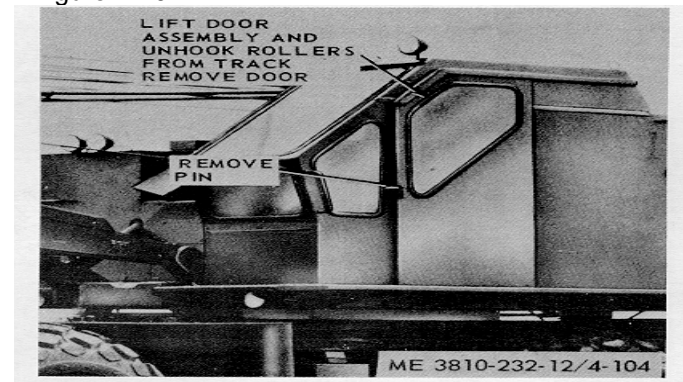

Figure 4-104. Crane cab door, removal and installation.
a. Removal Remove the crane cab door as illustrated in figure 4-104.
(1) Clean door.
(2) Inspect door for cracks, bent condition, or other damage. Replace a defective door.
c. Installation. Install crane cab door as illustrated in figure 4-104.